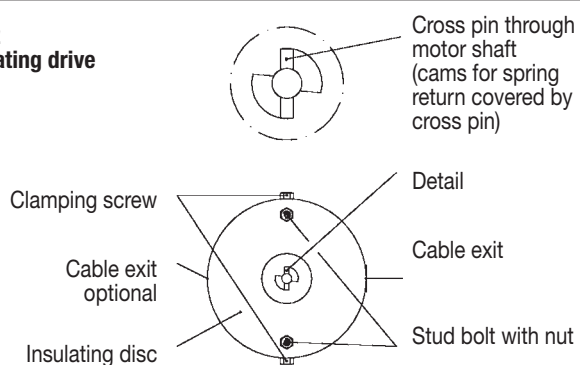

Fig. 3
6. Insert the actuating drive on an angle into the retaining plate. In order to do this the loosened nut must first be drawn through the extended section of the elongated hole. (Fig. 3)